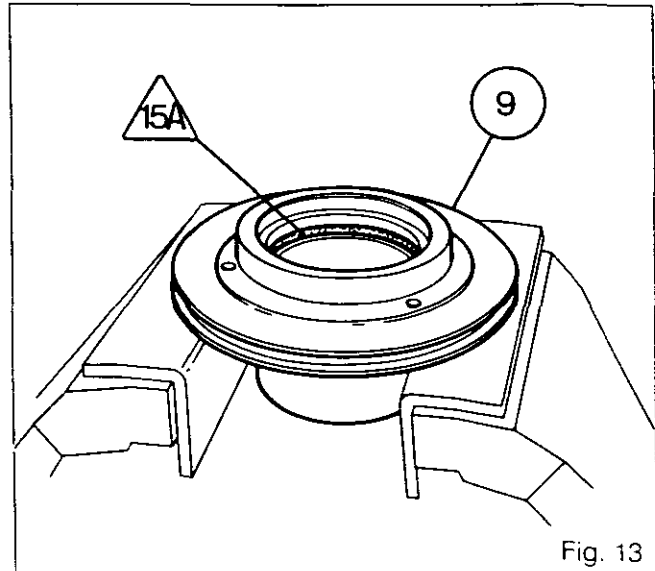

Fig. 13
**Gearbox - Clutch****Reassembly of "O" ring /15A\ and seal /15\ on release bearing carrier (9).**
21. Lubricate and fit the "O" ring /15A\ in the groove. Do not twist it (Fig. 13).